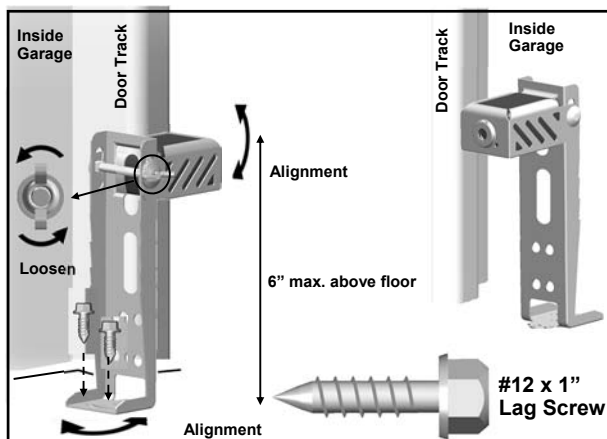

Fig. 1 (Floor Mount)
1. Place the Photo Eyes facing each other on each side of the garage door, as shown in Fig.1.